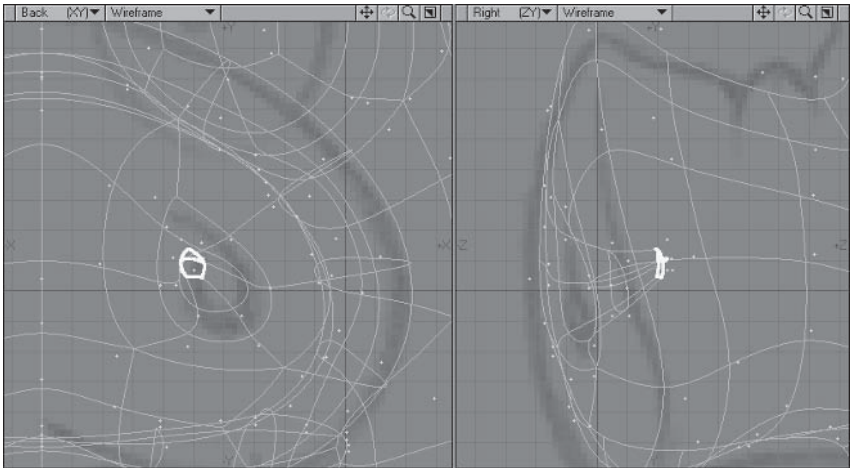

Figure 5.3-66. Creating the nostril cavity.
8. Select the inner two polygons and **Super Shift** in place, then position and scale to match Figure 5.3-66.